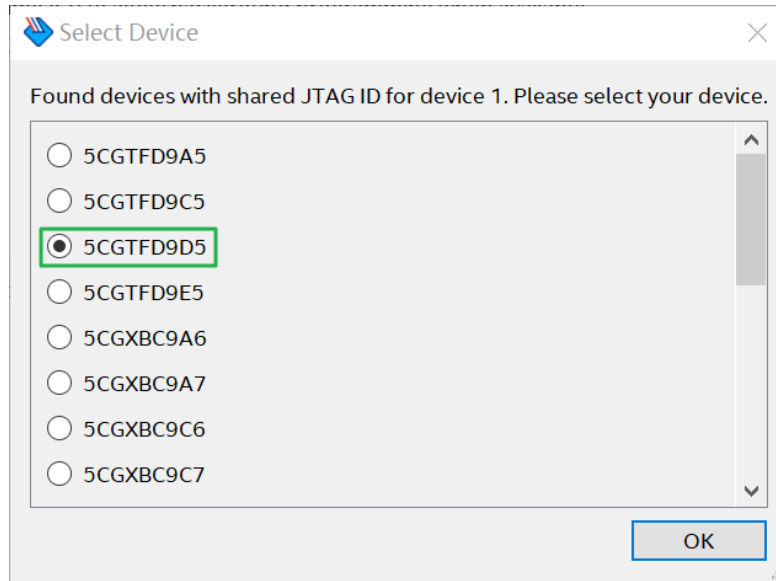

Figure 3-3 Select 5CGTFD9D5
2. Select detected device associated with the board, as circled in **Figure 3-3**.